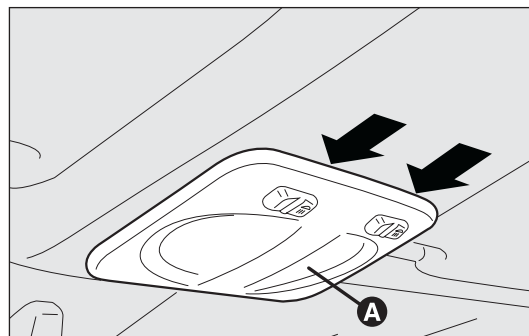

fig. 175
- ☐ manipulate the points shown by the arrows and remove light A-fig. 175;
- ☐ close the flap B and fasten the courtesy light A-fig. 175 in its housing, making sure it is locked in correctly.